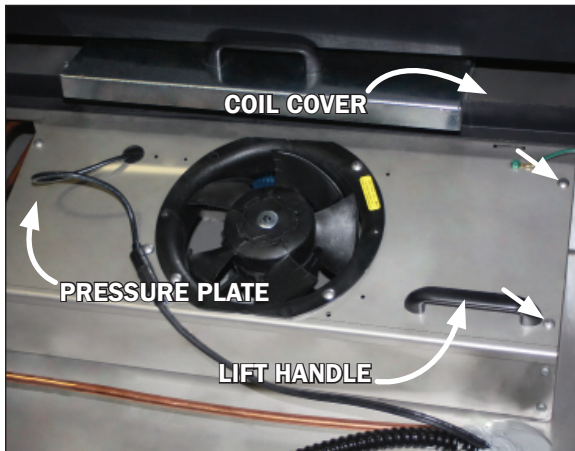

Fig. 11 Pressure plate, coil cover, screws and lift handle
3. To access the underside of the fans first remove the screws on the top ends and front sill of the pressure plate cover (Fig. 11). Lift the pressure plate by use of the provided lift handles (Fig. 11). There are hinges shared between the pressure plate and coil covers. **Note: It is recommended that more than one person lift the pressure plate.** The topside of pressure plate will rest against the topside of the coil cover, exposing the underside of the pressure plate and fans.
2. Remove the top two screws at both ends of the coil cover (Fig. 11), as well as the screws from the top ends and front sill of the pressure plate cover (Fig. 11). **Be sure to save the removed screws for reassembly.**